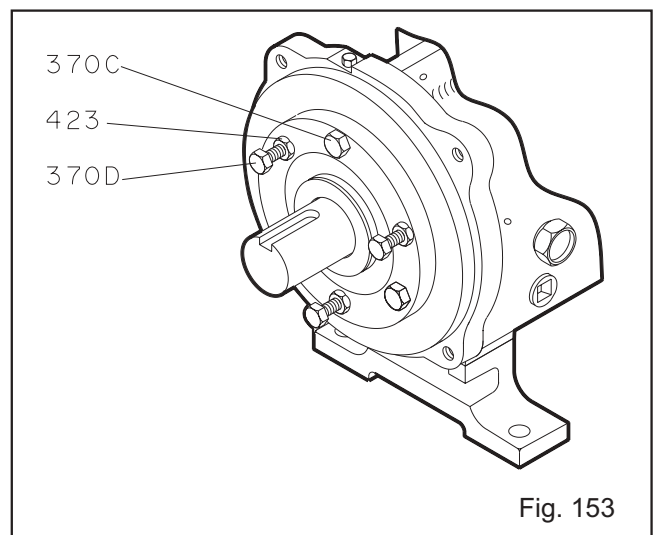

Fig. 153
- Loosen clamp bolts (370C), and jacking bolts (370D). Measure gap between impeller (101) and seal chamber/stuffing box cover (184) with a feeler gauge. When 0.030 in. clearance is reached, tighten clamp bolts (370C), jacking bolts (370D), and locking nuts (423) (Fig. 153)